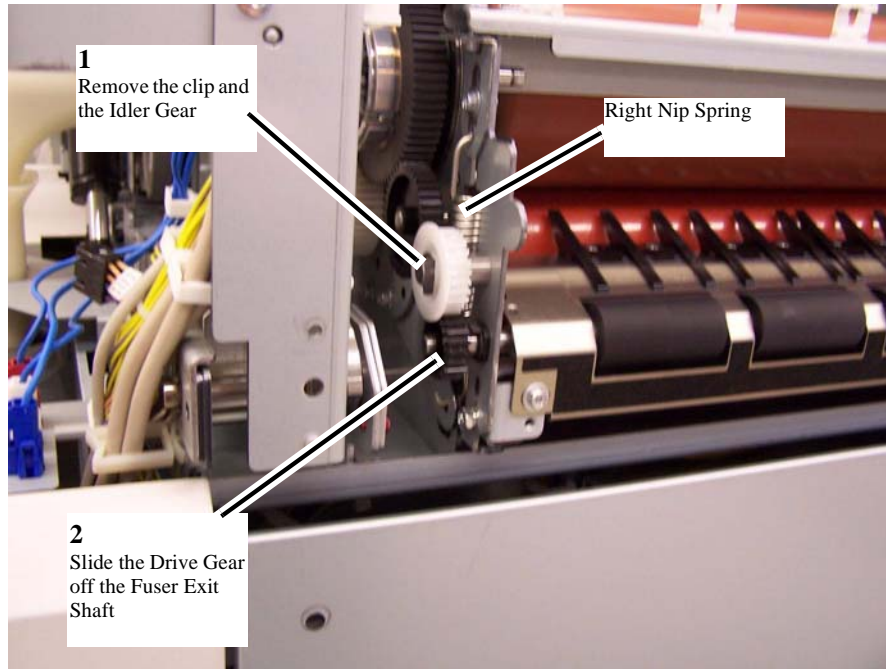

Figure 2 Remove the gears at the right end of the Fuser Exit Shaft
5. To access the Nip Spring at the right end of the Fuser Exit Shaft, remove the Idler Gear and the Fuser Exit Shaft Drive Gear (Figure 2).